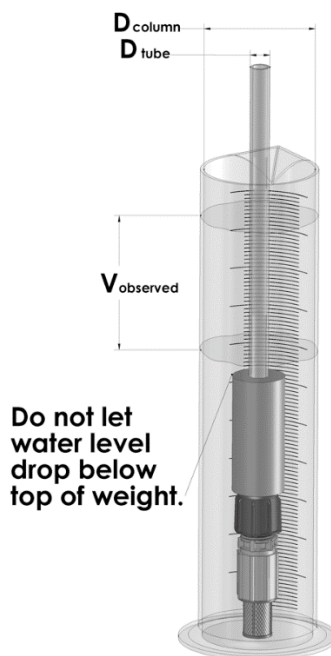

Figure 29: Graduated Cylinder
1. Prepare a device for accurately measuring volume such as a graduated cylinder or a scale sensitive to 1 gram. If using a graduated cylinder, make sure the fluid surface area remains constant during calibration, e.g., the fluid remains above the foot valve weight as shown in Figure 29.
8. Take the final reading of fluid volume in ml. If using a scale, divide the difference between beginning and ending weights in grams by the specific gravity of the chemical solution being pumped. If using a graduated cylinder with a foot valve inserted (Figure 29), the readings will need to be adjusted to compensate for the presence of the suction tubing using the following formula: